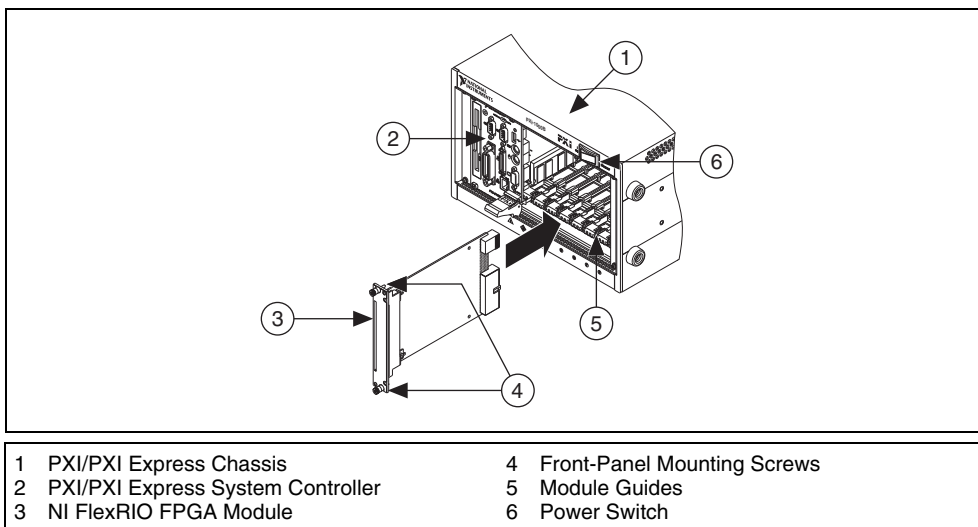

Figure 3. Installing an NI FlexRIO FPGA Module in the PXI/PXI Express Chassis
5. Place the PXI/PXI Express module edges into the module guides at the top and bottom of the chassis, as shown in Figure 3.